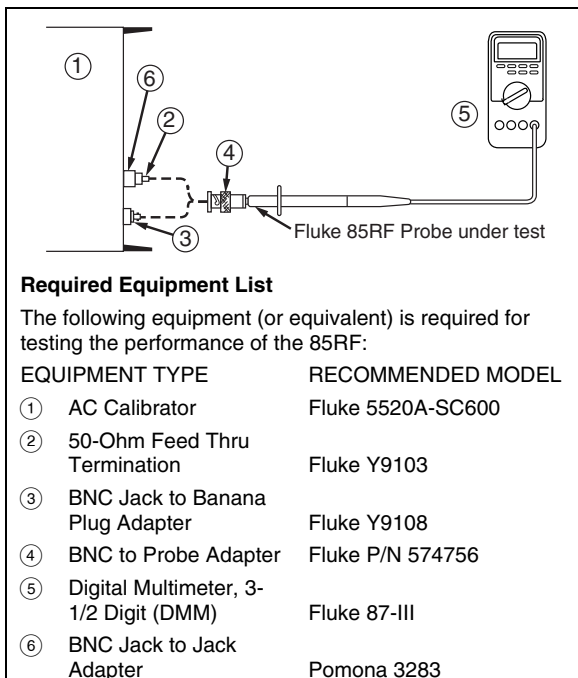

Figure 2.
1. Set up the equipment as shown in Figure 2. Using the leveled sine function of the scope output, set the AC